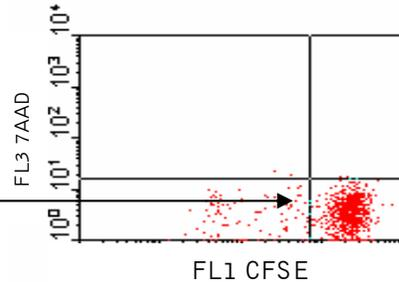

Figure 5b: Control C, CFSE-stained.
**Control C:** Run a control of CFSE-stained target cells to compensate for FL3 (7-AAD) vs. FL1 (CFSE), Figure 5b. Compare with unstained cells, Control B. Adjust the PMT voltage so that the stained target cells population falls within the 3rd or 4th decade (here, the cells shift to the right). Save the data to ensure that target cells are properly gated during analysis.